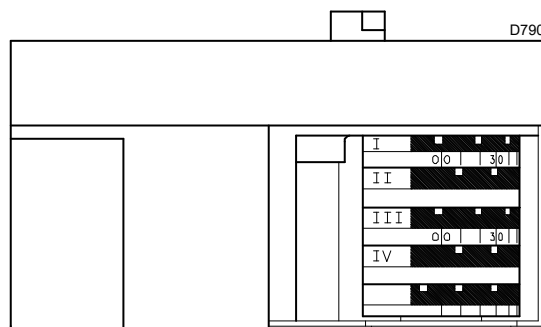
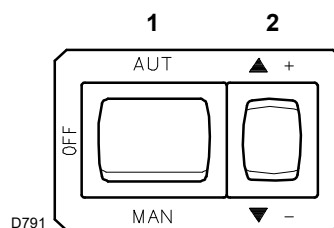
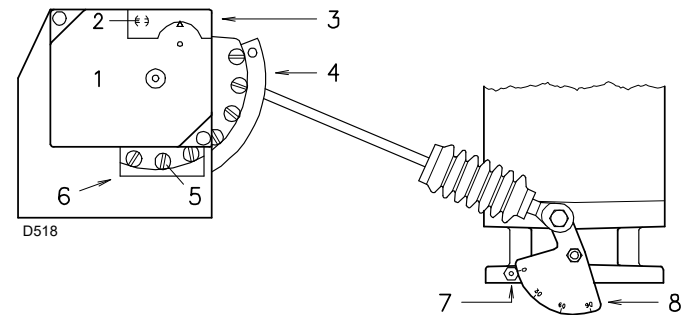

Fig. 28
Fig. 29
Fig. 31
The servomotor (Fig. 28) provides simultaneous adjustment for the air damper, by means of the variable profile cam, and the gas butterfly valve.
Switch off the remote controls and place the switch 1)(Fig. 29) to "MAN" position.
Press button 2)(Fig. 29 on page 23) “output reduction”, (▼ -) and keep it pressed until the servomotor has closed the air damper and the gas butterfly valve at 20° (adjustment made in the factory).
- If it is necessary to reduce it, reduce slightly the angle of cam III (Fig. 28 on page 23) with small, regular movements, i.e. bring it from an angle of 20° to 18° - 16°....
- If it is necessary to increase it, press slightly button 2)(Fig. 29 on page 23) “output increase” (▲ +) (open by 10-15° the gas butterfly valve), increase the cam angle III (Fig. 28 on page 23) with small, regular movements, i.e. bring it from an angle of 20° to 22° - 24°....
Progressively adjust the starting profile of cam 4)(Fig. 31) by turning the cam screws visible through the access opening 6). It is preferable not to turn the first screw since this is used to set the air damper to its fully closed position.
Key (Fig. 31)
In the description above, the burner was left switched on, working at MIN output. Now press the button 2) (Fig. 29 on page 23) “output increase” (▲ +) and keep it pressed until the servomotor has opened the air damper and the gas butterfly valve at 90°.
Progressively adjust the end profile of cam 4)(Fig. 31) by turning the cam screws visible through the access opening 6).
Slightly press the button 2)(Fig. 29 on page 23) "output increase" (▲ +) so that a new screw 5)(Fig. 31) appears inside the opening 6)(Fig. 31); adjust it until optimal combustion is achieved. Proceed in the same way with the other screws.
Switch the burner off with the switch 1)(Fig. 29 on page 23), position OFF. Release the variable profile cam by putting the servomotor slot 2) (Fig. 31) in a vertical position and check more than once, rotating the cam forward and backward by hand, that the movement is soft and smooth, without sticking.